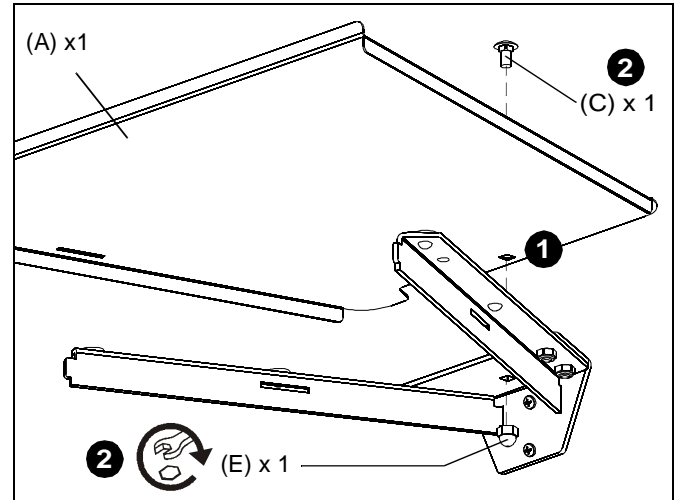

Figure 2
1. Align square mounting hole in shelf (A) with mounting hole in top of shelf base (B). (See Figure 2)
2. Secure shelf (A) to shelf base (B) using one 1/4-20 x 1/2" carriage bolt (C) and one lock nut (E). (See Figure 2)